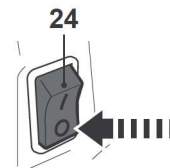

Fig. 28
- > Release the throttle trigger (27) and let the product run in idle for a while.
- > Set the ignition switch (24) to "O" (off position) (Fig. 28).